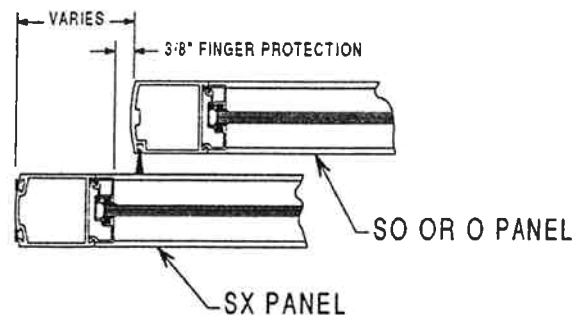

Figure 24
5. Adjust door stop so there is 3/8" gap from face of glass stop to face of sidelite (Ref. Fig. 24). In some cases door stop will be mounted on jamb tube.